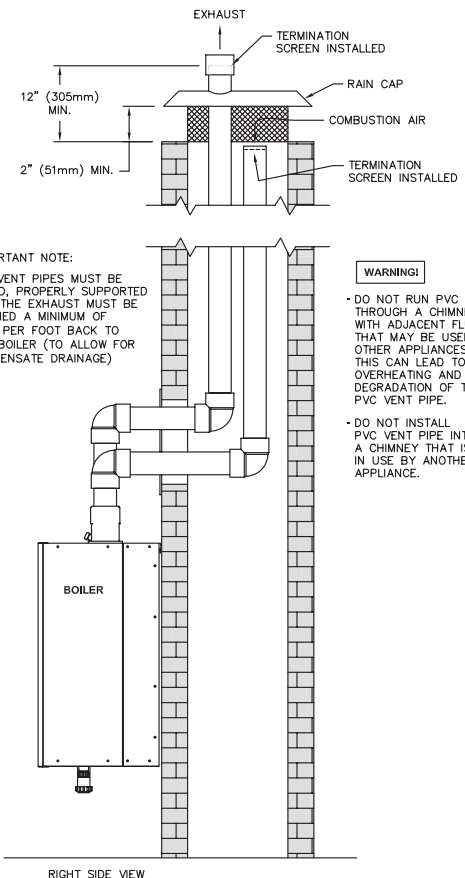

Figure 3.11: Venting Through a Chimney Using Outside Air
- Figure 3.11 shows an option for routing the exhaust and air inlet piping through an unused chimney.